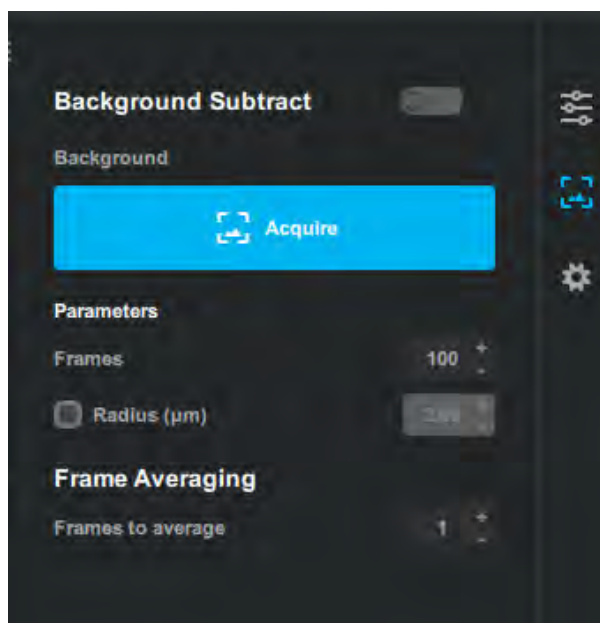

Figure 11.13.2: Figure: Background subtraction feature in Bluelake.
6. For a cleaner IRM image and to remove surface or image irregularities, you can perform a background subtraction (see Figure 11.13.2) and specify a radius (10 μm or larger) over which the nanostage can move in a circular pattern. Multiple frames are recorded as the nanostage moves in this circle, and a background image is generated. This background image can then be subtracted from the normally acquired image to remove irregularities induced by the surface. Enable the **Background Subtract** toggle after acquiring an image to perform this background subtraction.